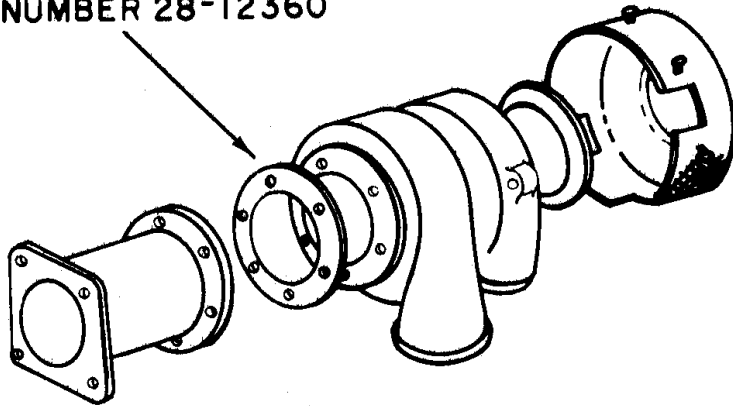

FIGURE 1
It is recommended that a new asbestos gasket P/N 28-12360 be installed as soon as practical. Refer to the Parts Manual page 16-2, item 15 for gasket location. (also see fig. 1 attached)